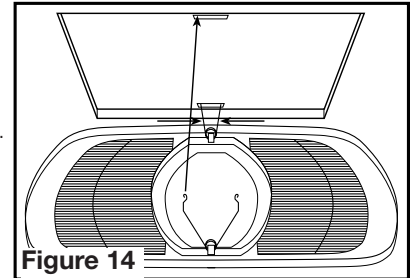

Figure 14
6. Install the grill (with reflector) by squeezing the two ends of the springs together and installing them up into the slots on the fan's housing. Push the grill up into position (Figure 14).